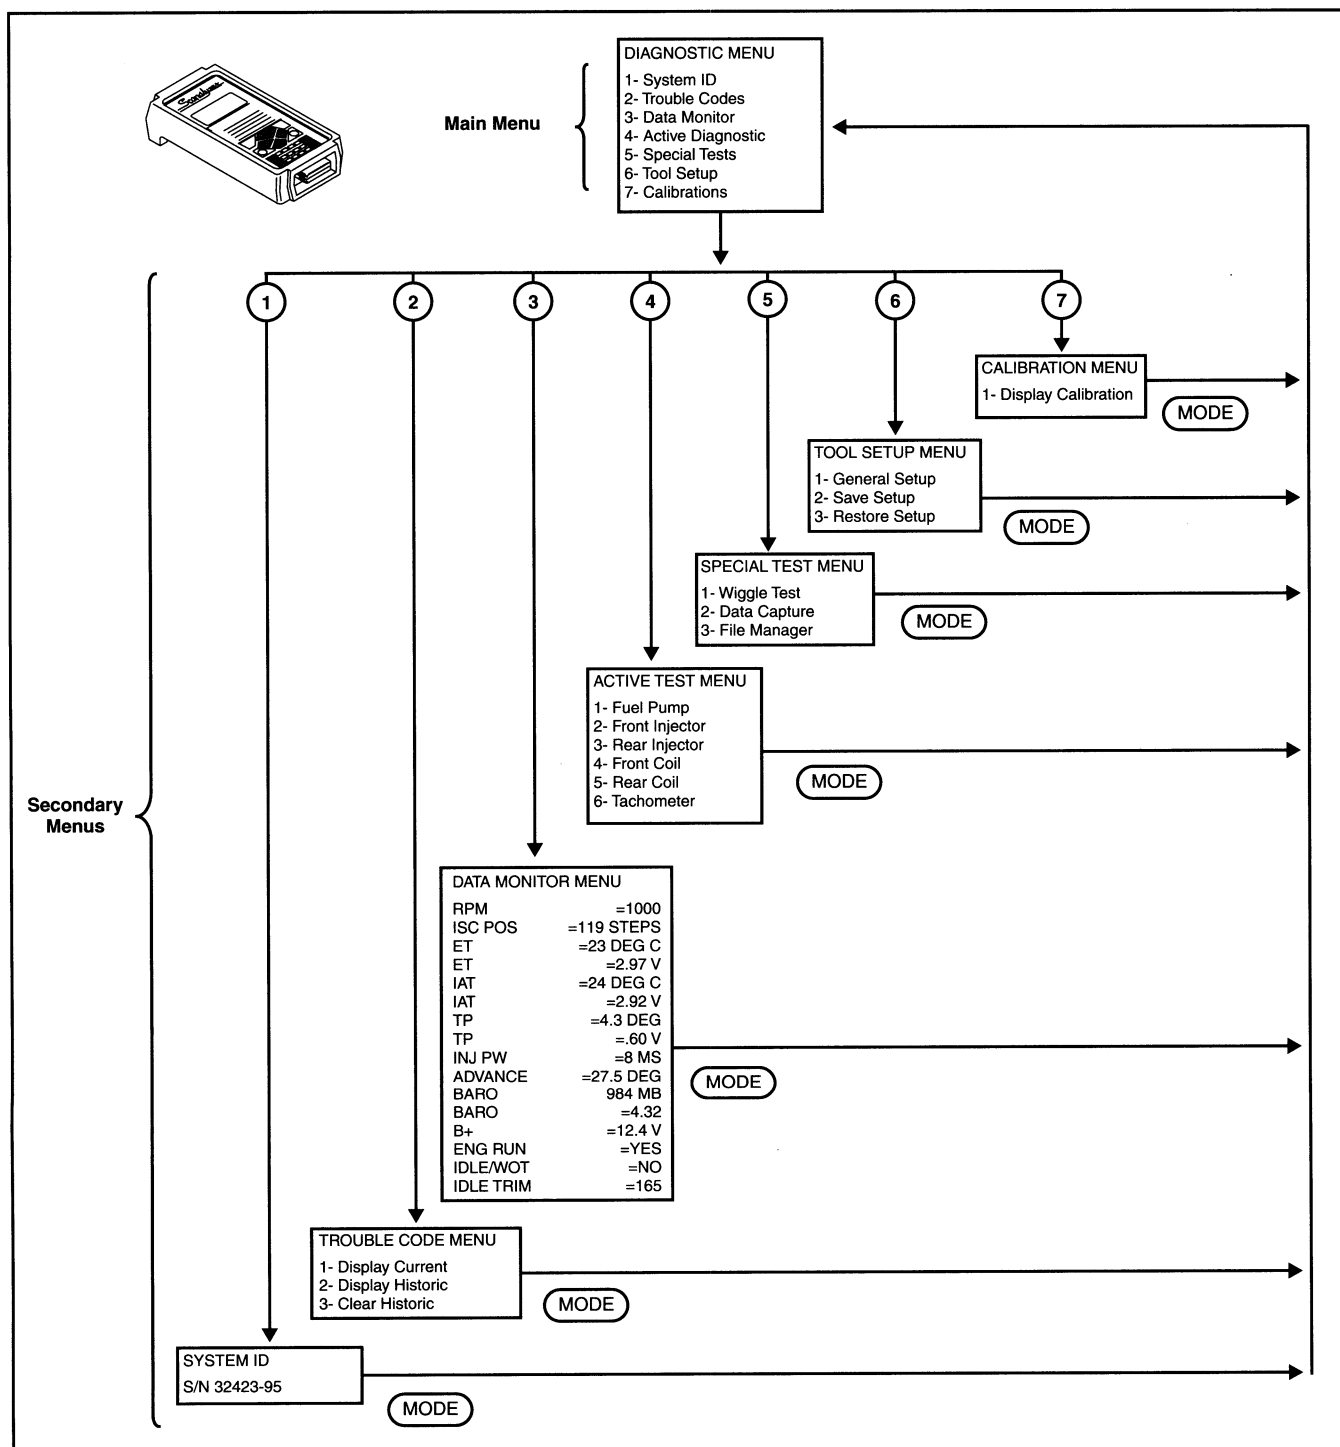

Figure C-5. Scanalyzer Menu Selections
7. Insert the diagnostic application cartridge into the Scanalyzer. During the next few seconds, the Scanalyzer sequences through a series of screens that reflect a power-on self test, the system copyright, and then an attempt at communications with the ECM. Once communications is established with the ECM, the Diagnostic Menu appears. See Figure C-5.